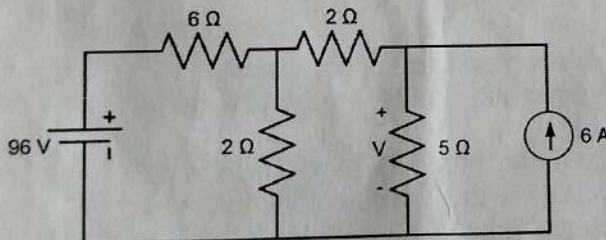

Fig 2c
c) Determine the voltage  $V$  in the circuit shown in fig 2c using nodal analysis.